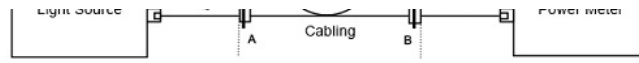

Figure 4. Measure attenuation of cabling, A connection, and B connection
- b. Attach the launch cord and tail cord to the cabling under test (see Figure 4).